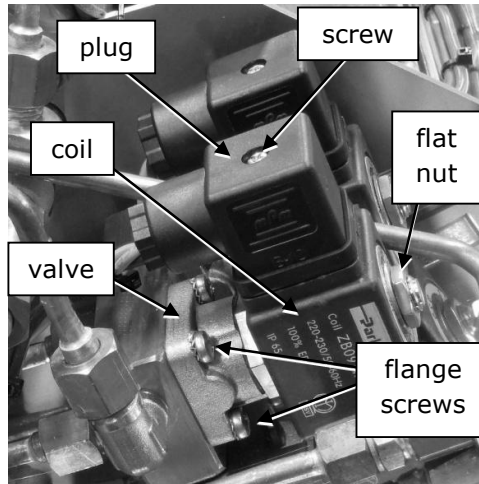

Figure 27. Detail of (2-way) flange valves on hot water manifold.
7. Remove screw from electrical plug with Phillips screw driver no. 1 (see figure 27). (Turn the group valve coil and plug such that you can reach the screw, if necessary loosen the flat nut on top of the coil a little with spanner 14 mm.)